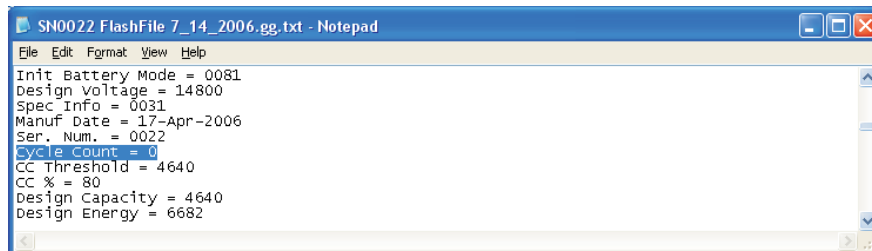

Figure 15. Cycle Count Modification in GG file using Notepad
5. Reset the *Cycle Count* field to "0," as shown in Figure 15.